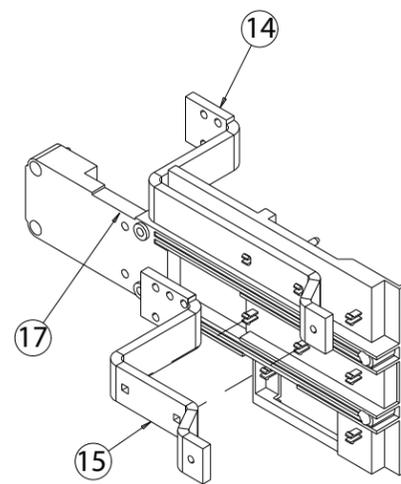

Figure 3
5. Reference fig. 3 & 4 - Installing the phase connectors for left feed applications (flip assembly for right feed applications). Align the two square holes in the long phase connector (item 14) over the two snaps on the strap support barrier (item 17) and press down latching the phase connector in place on the strap support barrier. Repeat steps for medium phase connector (item 15). NOTE: For shallow mount panels skip to step #8.